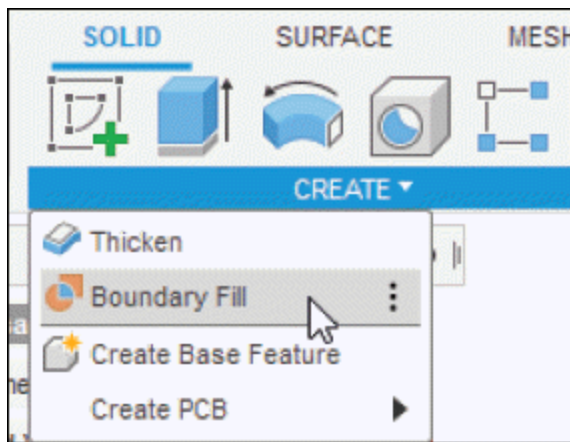
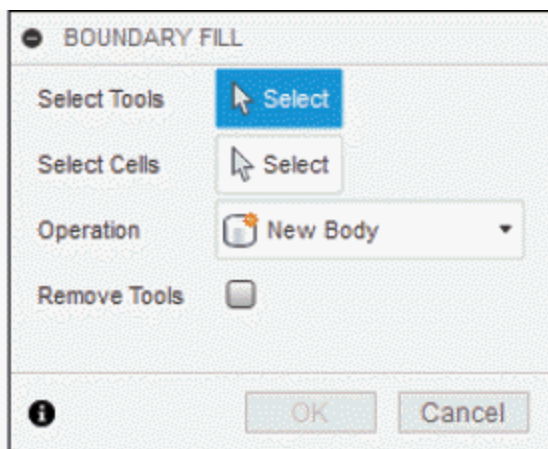

Figure-118. Boundary Fill tool
Figure-119. BOUNDARY FILL dialog box
- Click on **Boundary Fill** tool of **CREATE** drop-down from **Toolbar**; refer to Figure-118. The **BOUNDARY FILL** dialog box will be displayed; refer to Figure-119.